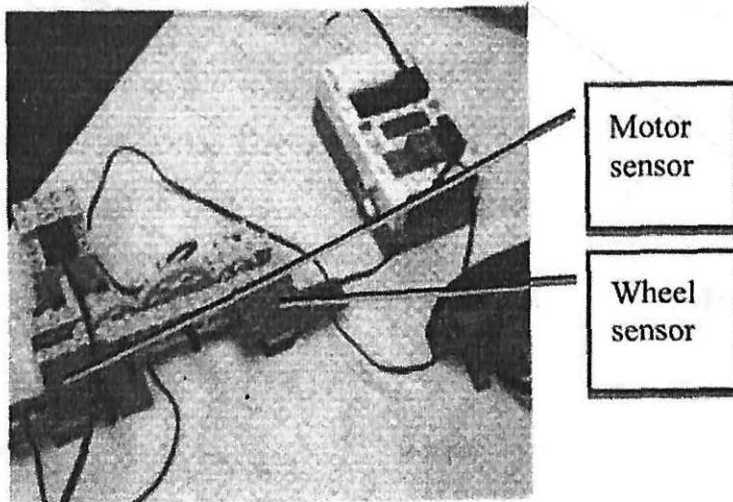

Figure 4.1.2 RCX set-up
1. Set up a gear train to test various gear ratios (see Figures 4.1.2 and 4.1.3).